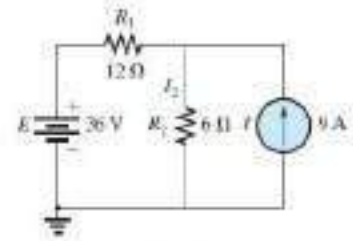

FIG. 9.2
a. Using the superposition theorem, determine the current through resistor R_2 for the network in Fig. 9.2.
Replacing the 9 A current source in Fig. 9.2 by an open circuit to determine the effect of the 36 V voltage source on current I_2 .